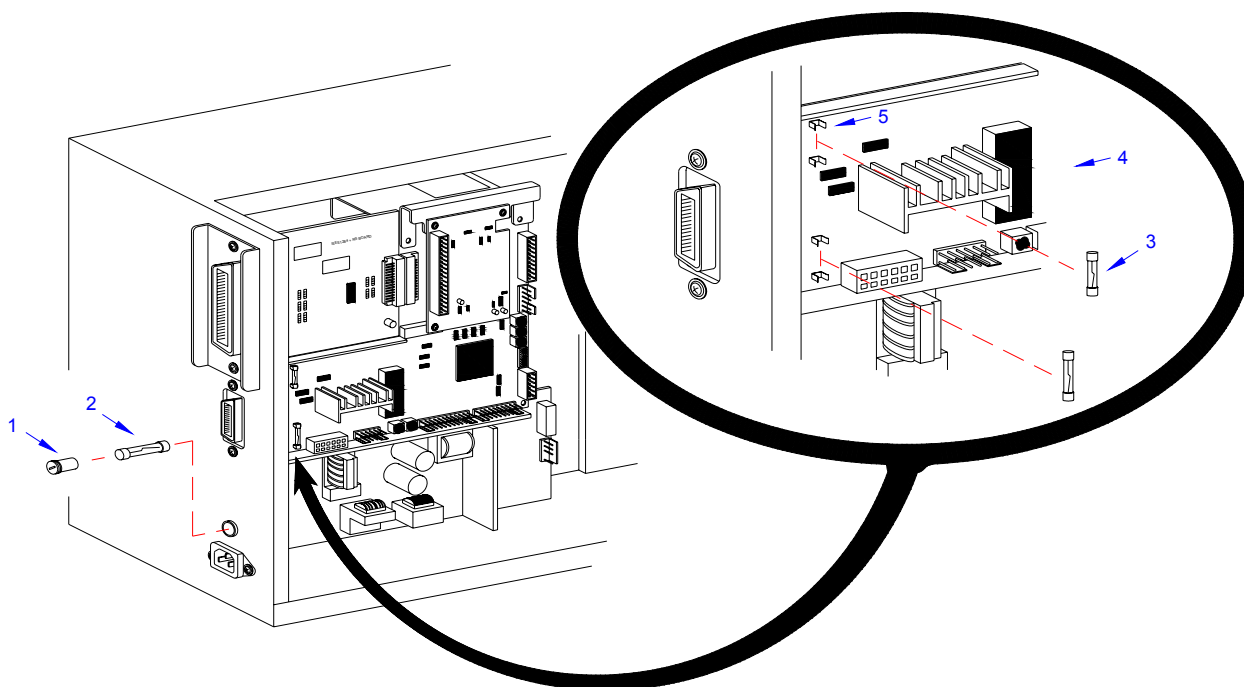

Figure 7-8, Fuse Replacement
- 2 Unscrew and remove fuse cap (1, Figure 7-8) and fuse (2) located on the rear printer panel.
- 3 Remove fuse (2) from fuse cap (1) and determine its condition. Replace as required.